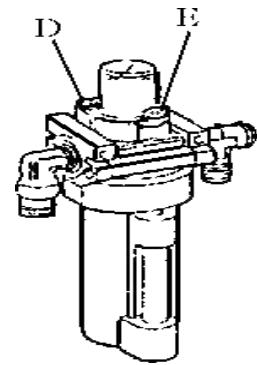

Fig 19
Unscrew with hex wrench (E). Based on connection of compressed air, first to tread Jaws open and close Pedal or Turntable Rotation Pedal 5-6 times, and then check whether oil in Oil Fog Maker drops down a drip of oil. For continuous operation, tread twice every time, drop down a drip of oil, otherwise adjust the screw (D) that controlled oil enters with minus screwdriver. (Fig19)